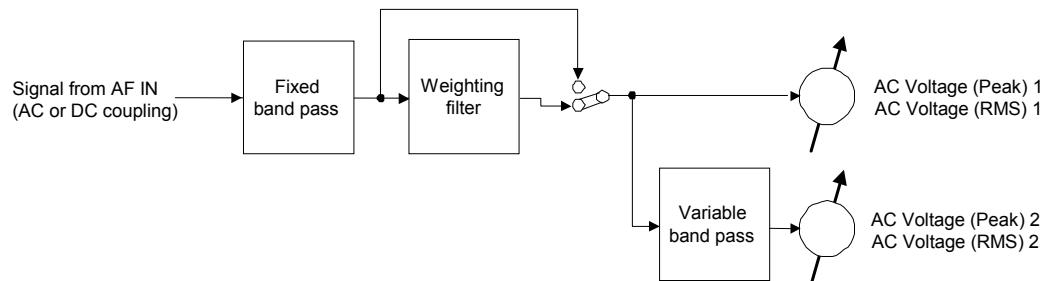

Fig. 4-40 AF analyzer input path configuration
Peak value of the AC component of the measured AF signal in V. The numbers 1 and 2 denote two different input paths for AF signals with different filter configuration; see Fig. 4-40 on p. 4.105.
**Bandpass** The *Bandpass* section sets the bandwidth of the fixed band pass (see Fig. 4-40 above).
**Weighting** The *Weighting* section selects a weighting filter to be switched into the AF signal path after the fixed band pass (see Fig. 4-40 above).
**Note:** The variable band pass settings affect the results for AC Voltage (Peak) 2 and AC Voltage (RMS) 2 only (see Fig. 4-40 above). These quantities are available in remote control but not displayed in the Analyzer/Generator menu.